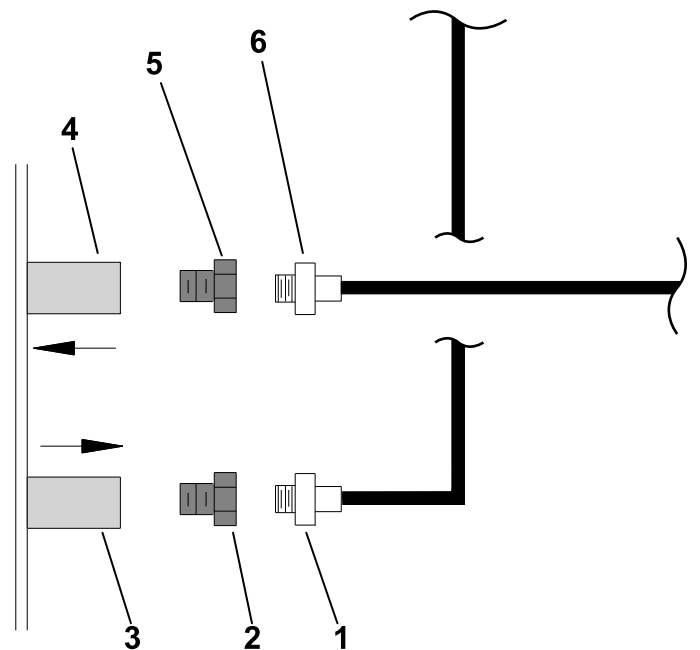

Figure 21
2. Install the quick coupler included with the core harvester to the hydraulic hose A—254 cm (100 inches, 8 FJ to 6 MP) that you connected to the motor (92-4240) as shown in Figure 21.